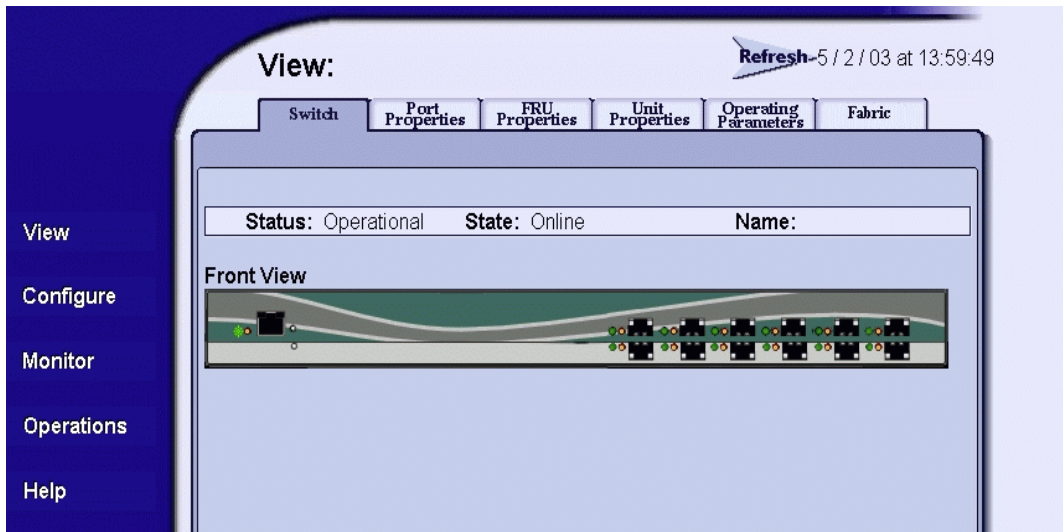

Figure 3-2 View Panel (SANpilot Interface)
- d. Type the user name and password obtained in step 1 and click **OK**. The SANpilot interface opens with the *View* panel displayed (Figure 3-2 on page 3-8).